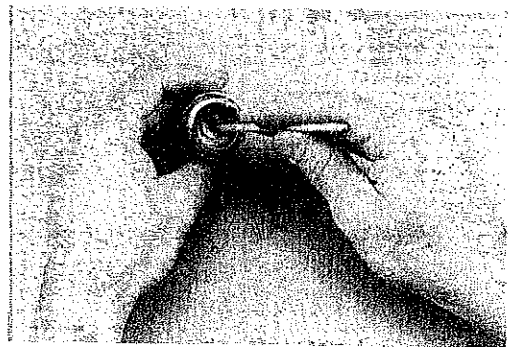

Fig. 1B
1. Lubricate and install the piston shaft o-ring(29) into the main body(28), using a 3/16" wooden dowel and a smoothly polished blunt dental probe from opposite ends to guide it into place. (See fig. 1B.)
2. Lubricate and install the piston head o-ring(33) onto the head of the piston(32).